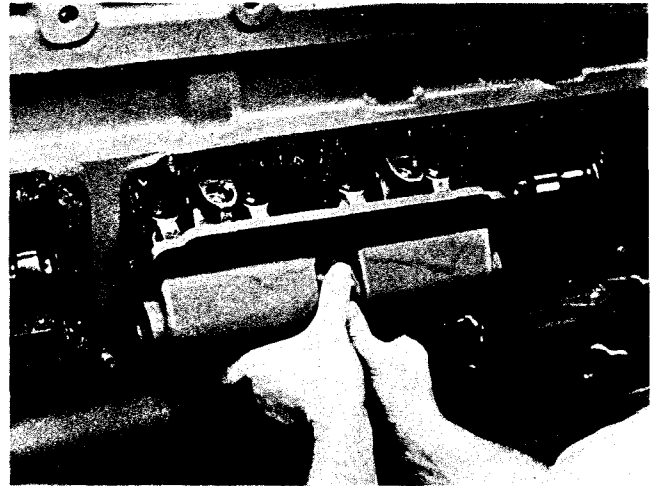
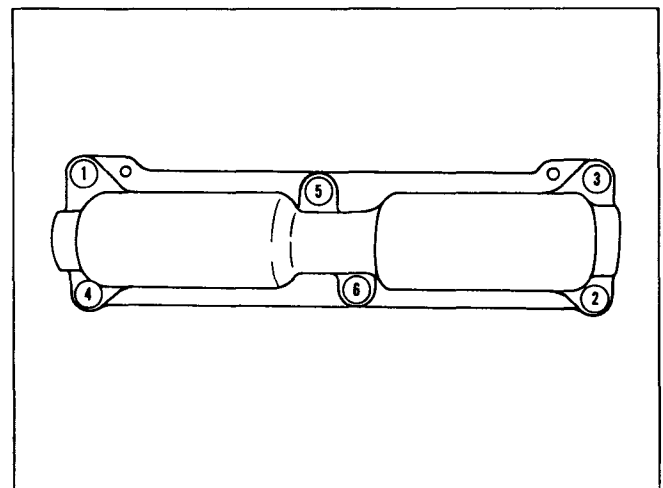

Fig. 14-24, (N114260). Installing cam follower
Fig. 14-25, (N114236). Cam follower torquing sequence
2. Position cam follower assembly to block. Fig. 14-24. Torque capscrews in sequence as shown in Fig. 14-25 in increments of 15 to 20 ft-lbs [20 to 27 N•m] to 30 to 35 ft-lbs [41 to 47 N•m].